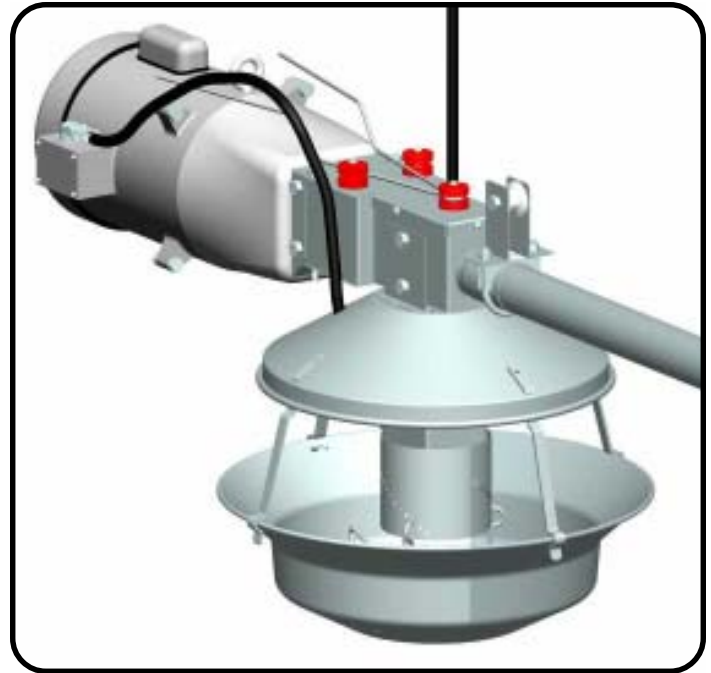

Figure 1
1. Assemble the drive unit and control unit with the four (4) bolts supplied. There may be some assembly to the control unit required. Refer to the pan feeder assembly for instructions.
2. Remove the vent plug at the top of the gearbox and fill with six (6) ounces of lubricant that is provided (or as specified below).
3. Place the end of the last tube section into the outlet tube on the control unit. Secure with the supplied U-bolt and insulator assembly as shown in Figure 1.